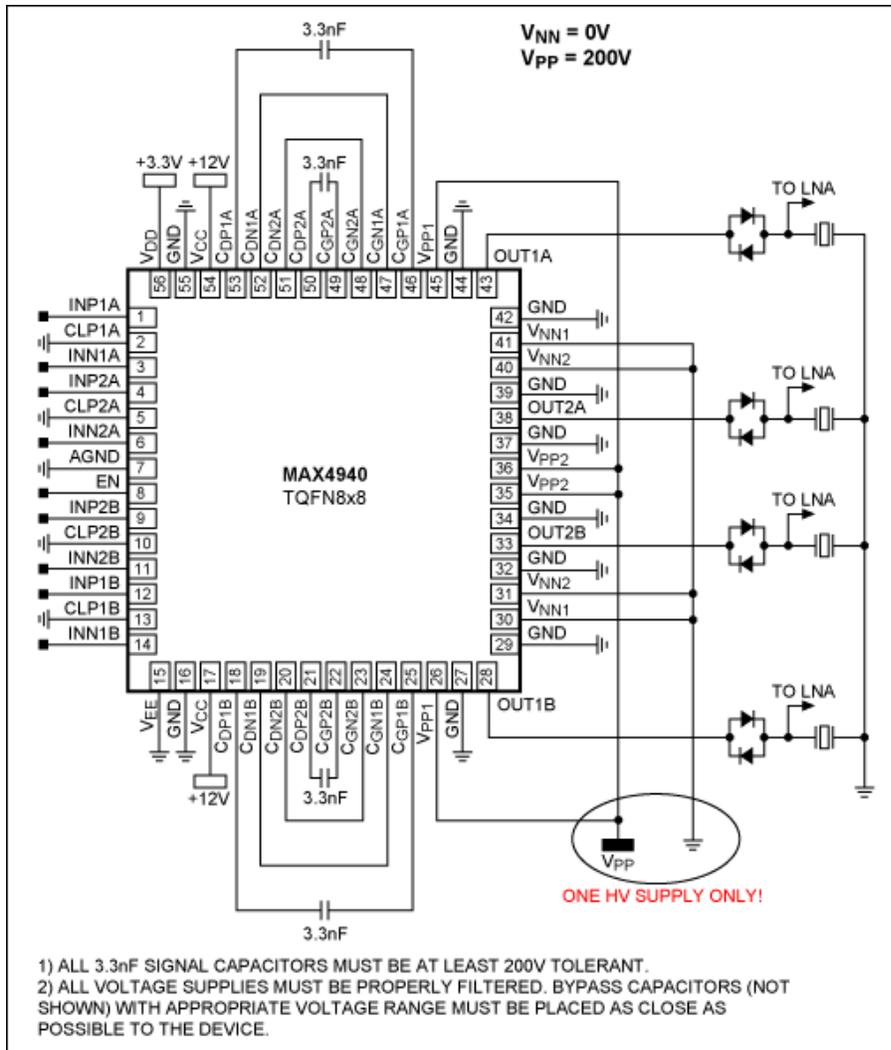

Figure 6. The MAX4940 in a unipolar positive application.
3. The unipolar positive (Figures 6 and 7) configuration is slightly preferable when compared with the unipolar negative (fewer external components are needed and the exposed pad is connected to GND plane for better thermal performance).
Now suppose you are working in unipolar positive mode (Figure 6) and trying to transmit a 200V unipolar burst. If for example $C_{TOT} = 400pF$, then the slew rate is limited to: